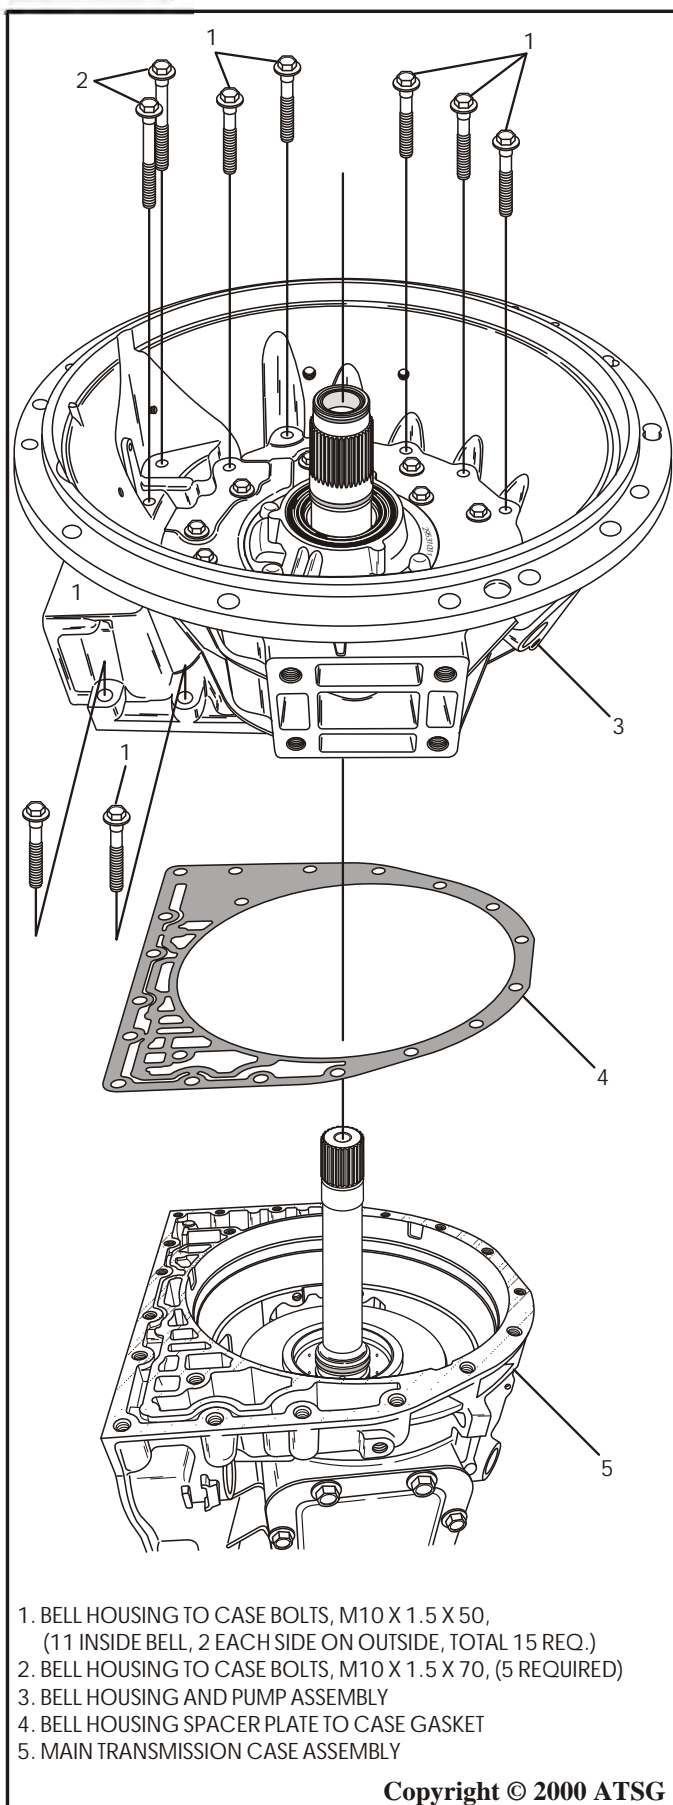

Figure 55
24. Remove 2 bell housing bolts from each side of the case that are not inside the bell housing, as shown in Figure 55.
26. Remove bell housing and oil pump assembly from the transmission case, by lifting straight up, as shown in Figure 55.
27. Remove and discard the pump spacer plate to case gasket (See Figure 55).